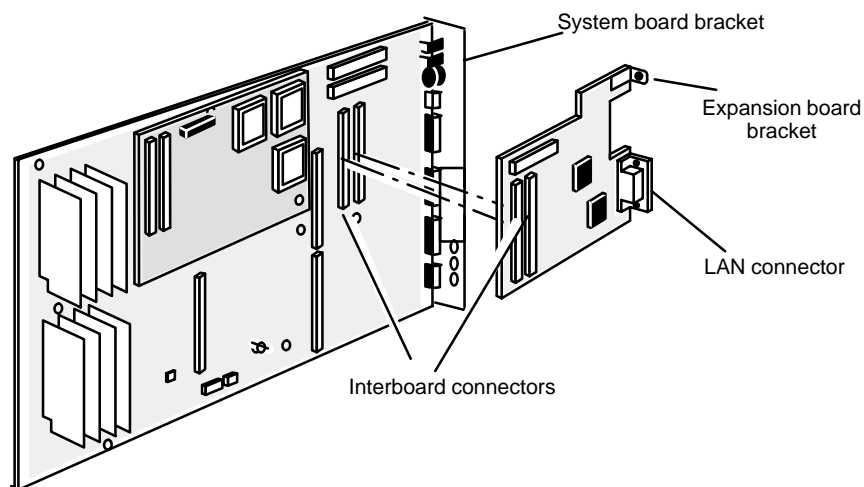

Figure 9-15 Joining the Interboard Connectors
- Position the Ethernet LAN connector in the openings provided by the system board bracket and the computer unit bulkhead, then align the interboard connectors and press them together as shown in Figure 9-15. If you cannot press the connectors together, make sure that the connectors are aligned correctly, and then try pressing them together again.